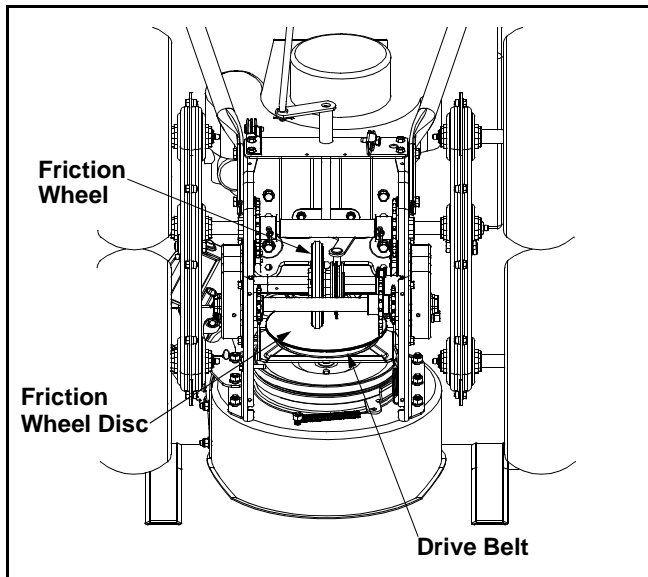

Figure 17
- Working from the underside of the frame, slip belt between the friction wheel and the friction wheel disc. You may have to twist the belt flat in order to slide it through the clearance between the friction wheel and the friction wheel disc. Remove and replace the belt. Reassemble following the instructions in reverse order. See Figure 17.